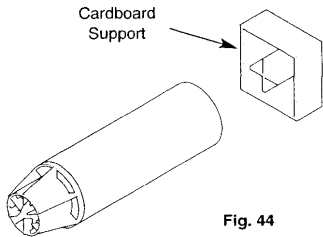

Fig. 44
7. The cardboard support supplied in the flue pack should be installed onto the flue tubes to ensure the assembly is supported during cutting (Fig. 44 & 45).